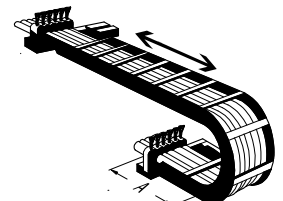

Fig. 4
- With long chain link trunking in which the upper drum lies on the lower drum, fasten the cables only at the driver end (see Fig. 4).